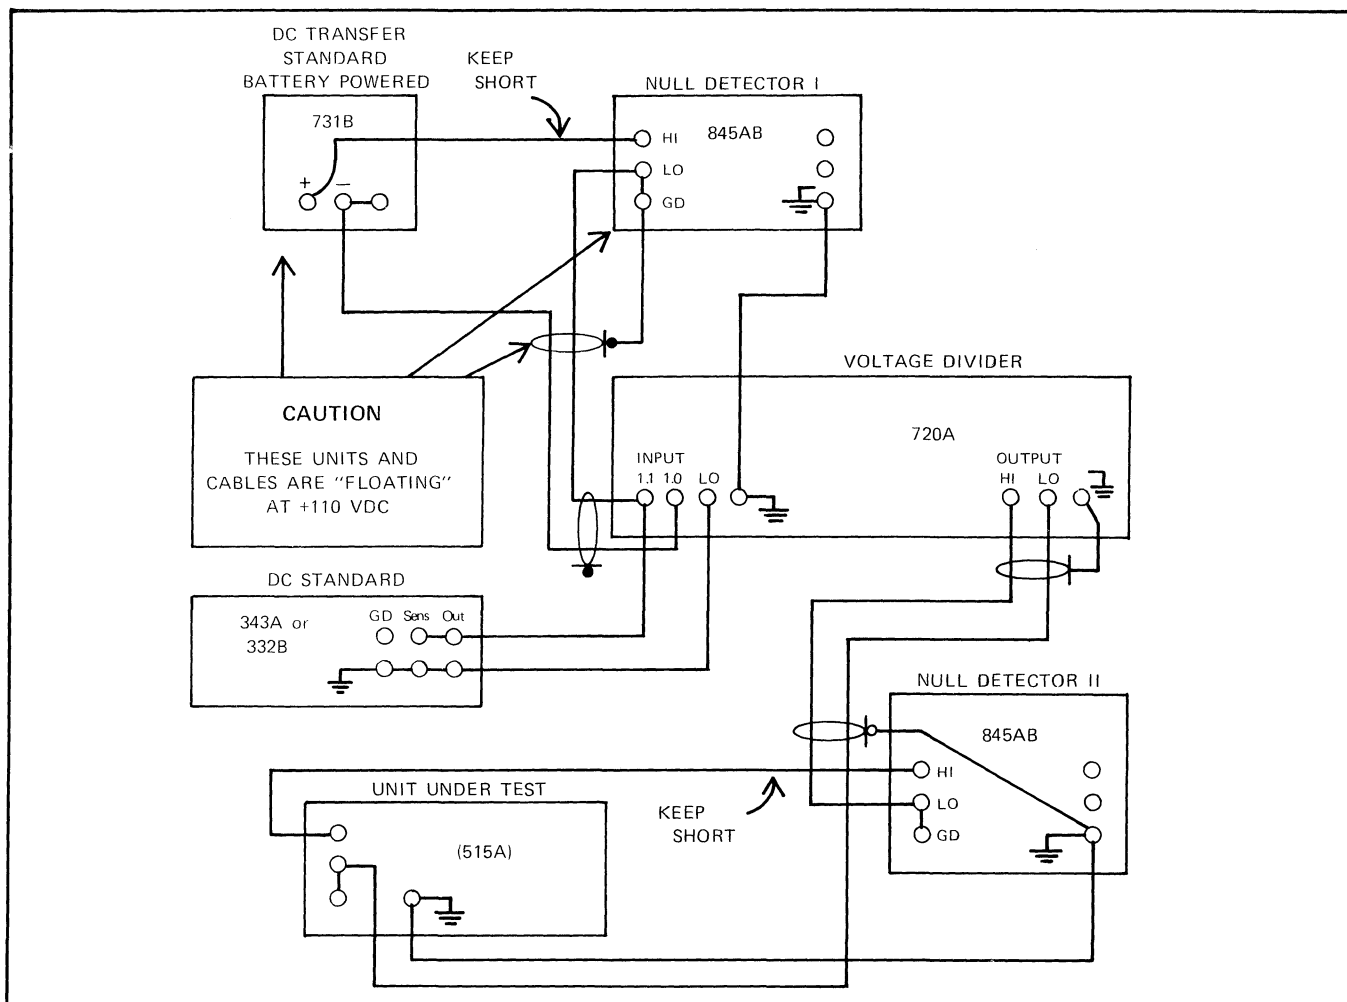

Figure 4-7. 100 VDC TESTING
- a. Connect the equipment as shown in Figure 4-7.